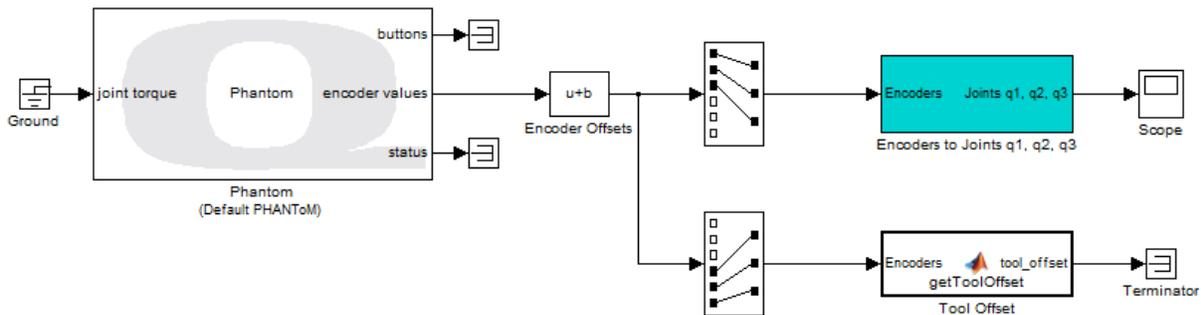

Figure 3.3: Forward Kinematics model
2. The Forward Kinematics model is preconfigured to read the Omni joint angles, as shown in Figure 3.3